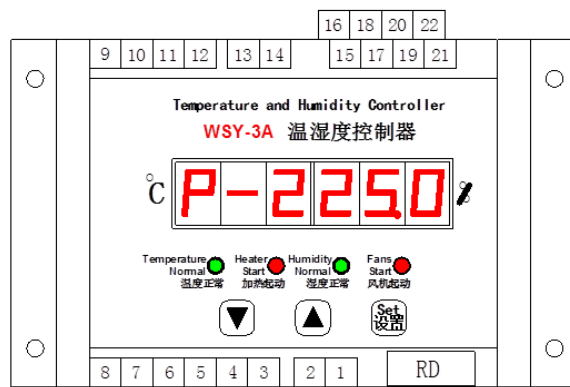

Figure 2
- Continue to press the setting button, and the left three digit digital display flashes to show P-2, indicating the upper temperature limit setting value. The right three digit digital display is the numerical value, which can be set through " \wedge " and " \vee " (see Figure 2), with a setting range of 0-99.